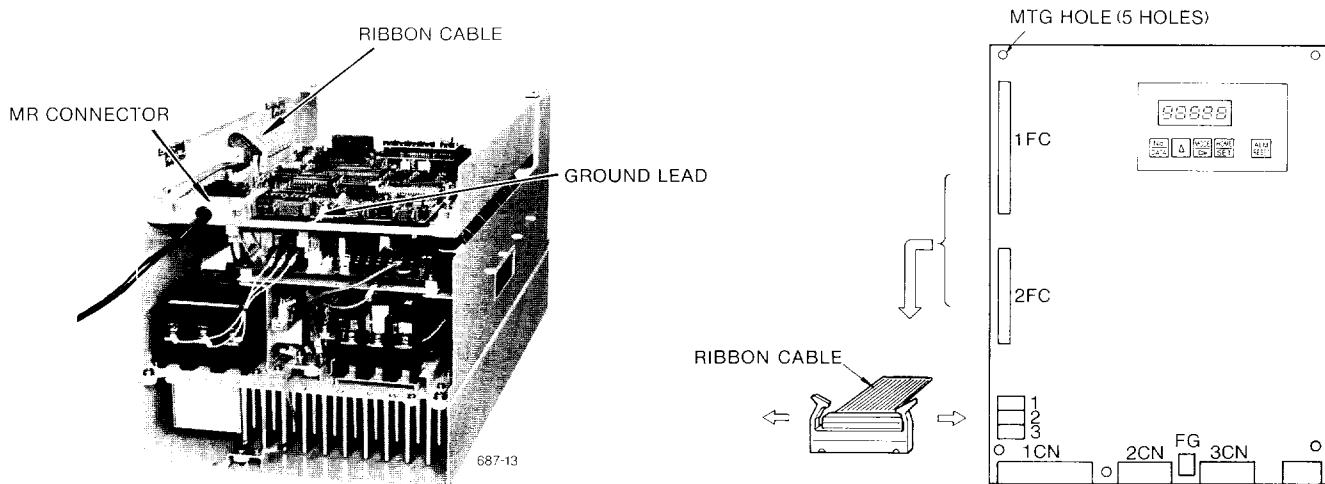

Fig. 13.1 Removal of Control Circuit Board
(1) Removal Procedures (Fig. 13.1)